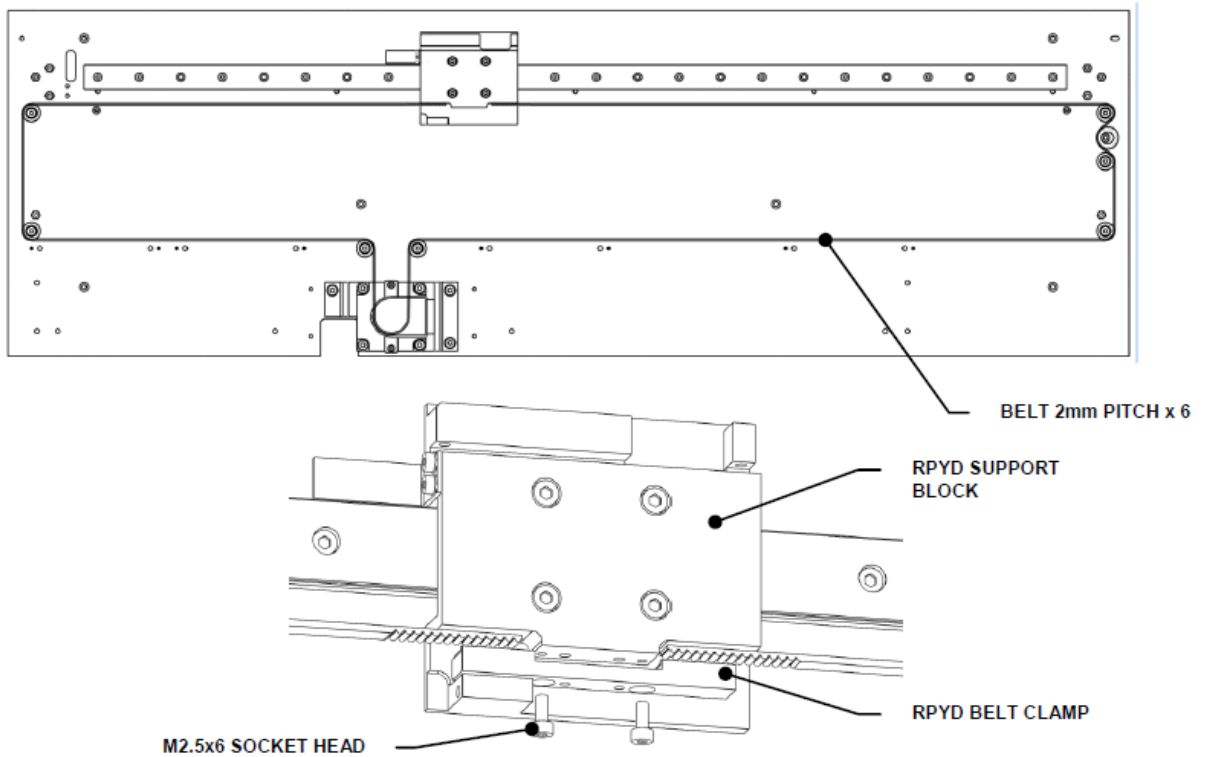

Figure Q-9: Removing the Belt
2. Remove the clamp from the belt (Figure Q-9) by unscrewing the two M2.5x6 Socket Cap Head Screws.
1. Take a piece of Belt 2mm pitch x 6 cut to 1862mm long and pass the belt around the motor pulley and the idlers as shown in Figure Q-9.